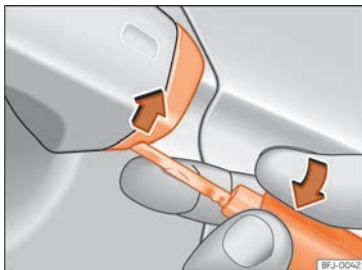

Fig. 97 Driver door handle: lever the cover off
- Insert the key shaft into the lower opening in the cover on the driver door handle »» Fig. 97 then remove the cover upwards.